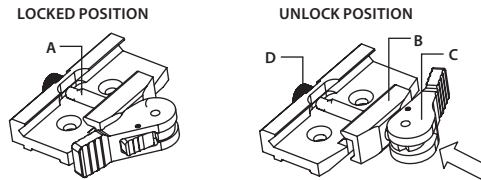

FIGURE 3-5. MOUNT. UNDERSIDE VIEW
4. Install the CO-MINI on the Picatinny/ Weaver rail in front of the day scope. The stop (A, Figure 3-5) should slide into one of the rail's transverse slots. The light suppressor should cover the day scope's objective lens.
6. Verify that the clamping device (B, Figure 3-5) firmly holds the CO-MINI. If necessary, adjust the clamping device as detailed in Part 3.1.4 (Clamping Device Adjustment).
Adjust the mount clamping device as follows (refer to Figure 3-5):